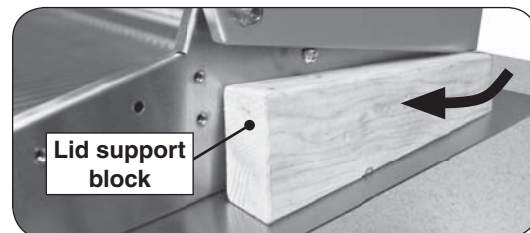

Fig. 2-5 Place lid support block
4. Place the lid support block as shown in Fig. 2-5 to keep the lid in place during installation.